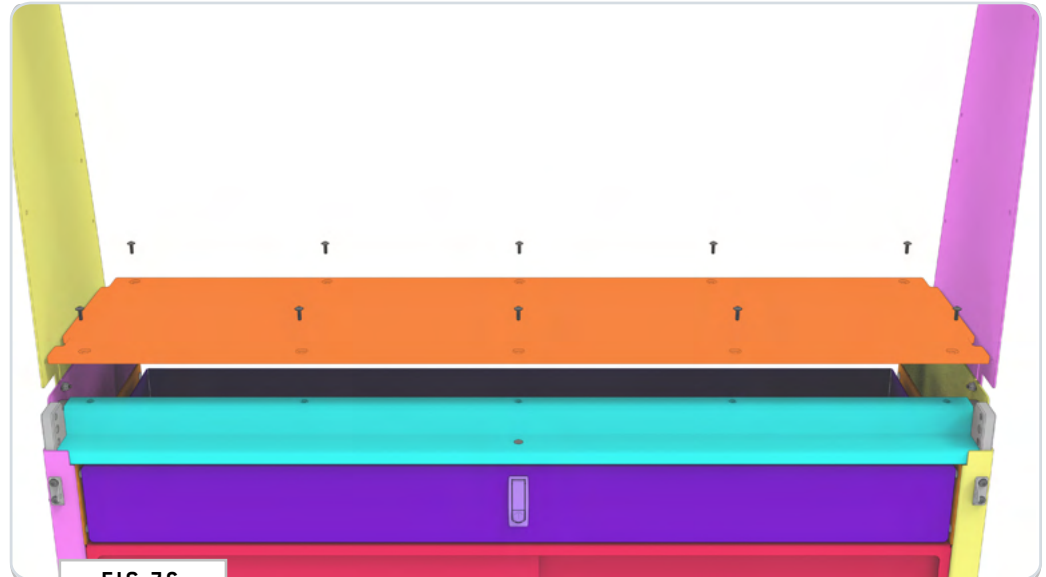

FIG 76
**5.7 Install Hinge Side Cabinet Top:** Attach the **Hinge Side Cabinet Top** to the pre-threaded holes of the **Front and Rear Support** of the **Hinge Side Cabinet** using (10) 1/4-20 x 0.75 **Flanged Button Head Screws** (FIG 76 +77).